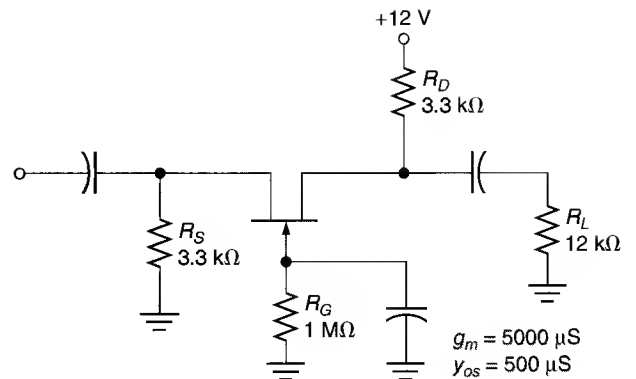

FIGURE 12.71
44. Determine the ranges of A_v , Z_{in} , and Z_{out} for the circuit shown in Figure 12.71.